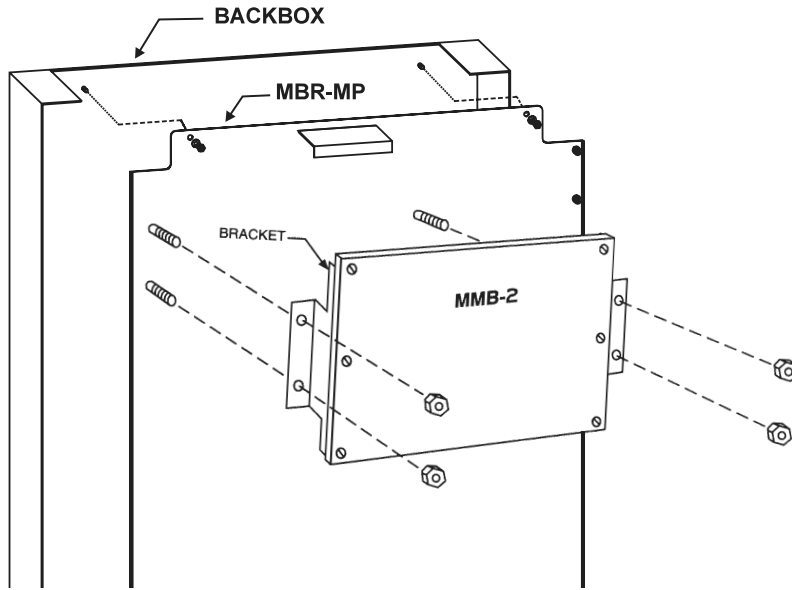

Figure 1
1. Place the MMB-2 with the mounting bracket over the four standoffs on the MBR-MP mounting plate in the upper left portion of the backbox (See Figure 1).